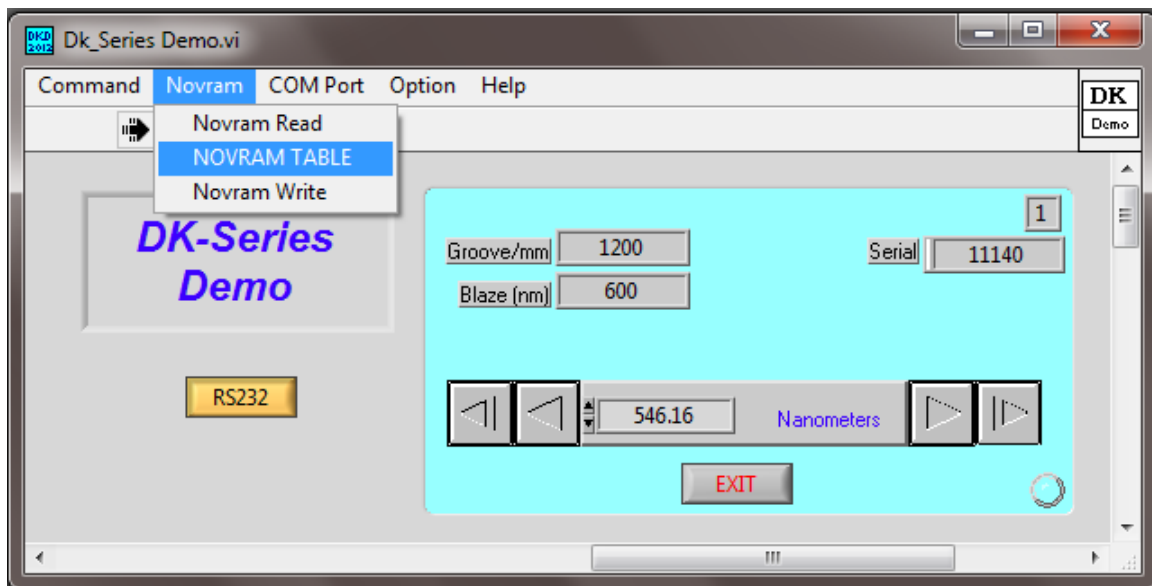

Figure 21. Novram
9.4.1 NOVRAM TABLE – Pressing the Novram drop down on the home screen reveals the NOVRAM TABLE (Fig. 21). The Novram Read and Novram Write functions are active within the Novram Table.